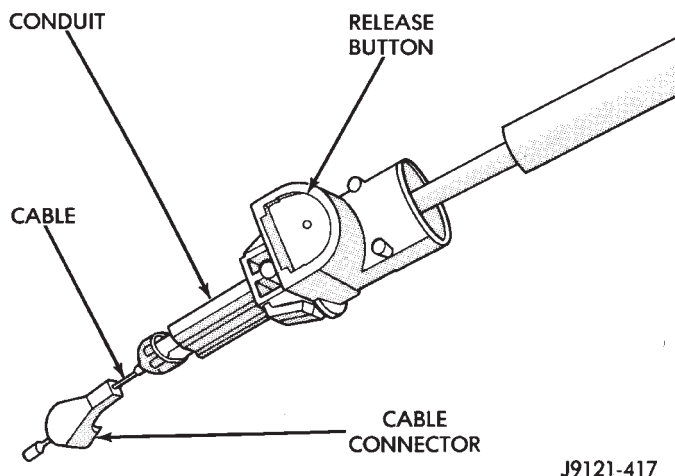

Fig. 5 Throttle Valve Cable Components
(1) Shift transmission into Park and shut engine off.
(2) Press cable release button (Fig. 5).